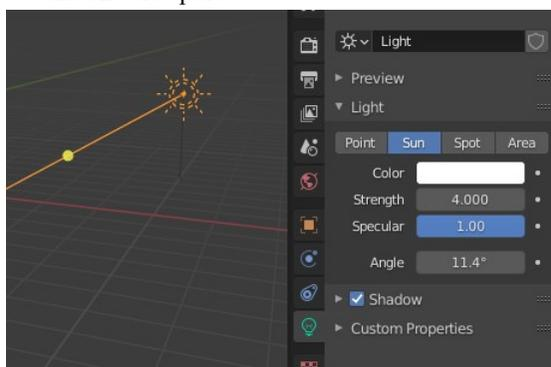

Figure 2-14 Sun settings
5. Change the light from a point source to a “Sun.” Select the light object either in the 3D Viewport or the Outliner Editor area. The default light is named “Light” and its type is Point, so click the Object Data Properties tab (the green lightbulb in Figure 2-14). Under Light, select **Sun** and change the power to **4.0 W/m²**. Rotate the direction of the sun to be more horizontal using **R** in the 3D Viewport.